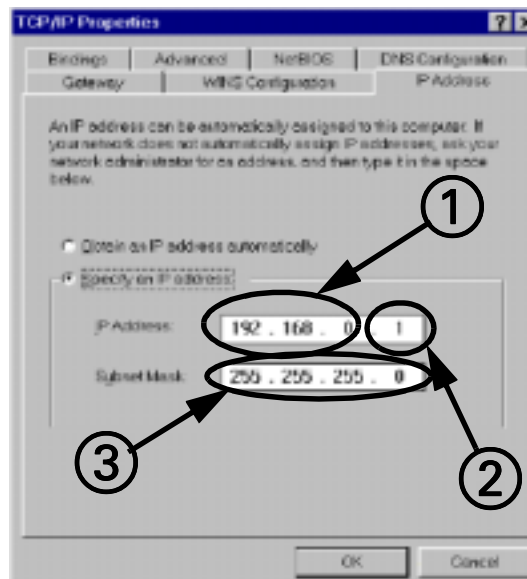

Figure 14-5 TCP/IP Window
7. Type first 3 sets of digits (① in Figure 14-5) from Hospital LAN Adapter (Network Adapter 1) IP Address settings. See Table 6-4 on page 6.
8. Type number between 1-255 that does NOT match same number given in Table 6-4, in last IP address box (② in Figure 14-5).
9. Type same numbers as they appear in Hospital LAN Adapter (Network Adapter 1) settings in Table 6-4, in Subnet Mask box (3 in Figure 14-5).